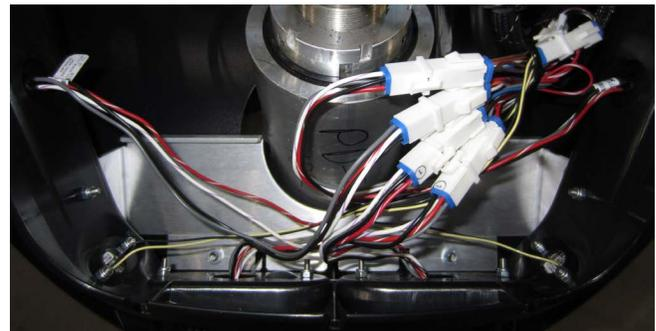

Figure 24: Light Harnesses with Cable Ties
5. Detach the wire harnesses (**Figure 24**).
5. Install two cable ties around the light harnesses to keep them neat and safe from sharp corners. See **Figure 24**.